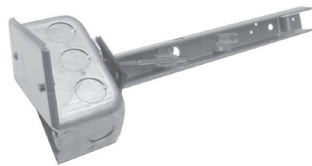

Figure 8. Sensor Holder and Junction Box Assembly
- b. For units with sensor holder and junction box assembly option (see Figure 8):